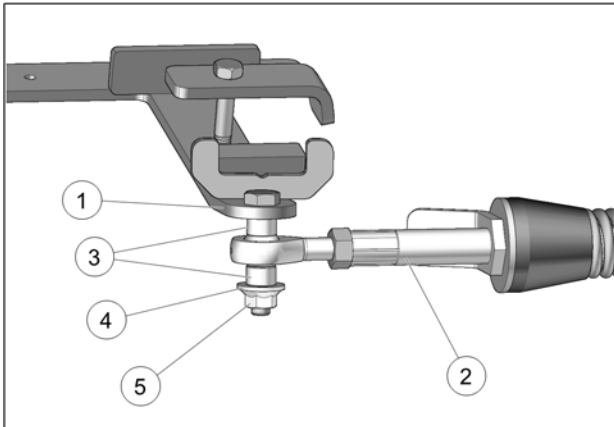

Fig. 16
- Attach the stabilizing rod (2) to the anchor bracket (1), using the two spacer bushings (3), flat washer (4) and nut (5). Torque to 70 N•m [52 lb•ft]. Refer to Fig. 16